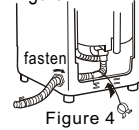

Figure 4
5. Extend the drain hose out of the other side. Fix the drain hose onto the cabinet with the drain hose rack. Set the drain hose nut on, and fasten the nut to the direction indicated in the figure, as per Figure 4.